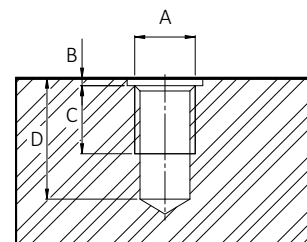

Figure 13: Bottom, top or lateral mounting threads
1. Mount the camera to the base using suitable M4 screws at 2.7 Nm maximum torque for a thread engagement (C) of 6 mm between screws and mounting threads, see Figure 13. For details, see your model's technical drawings.